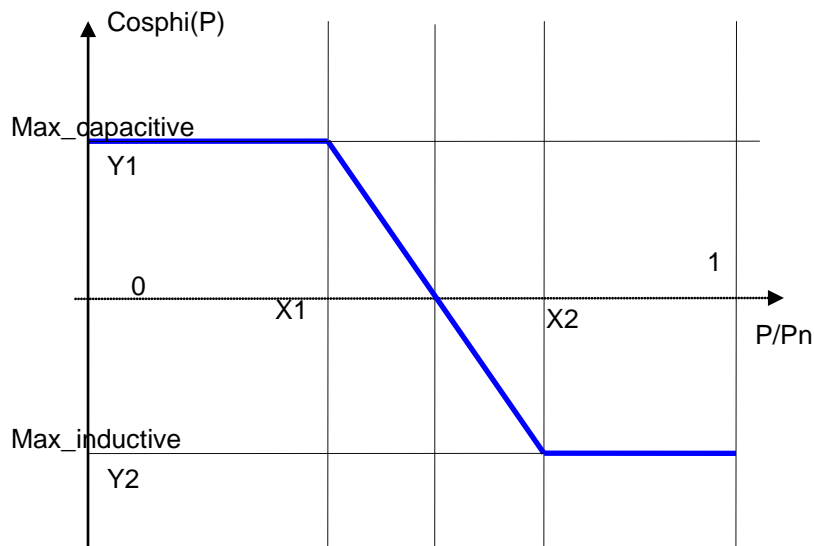

Figure 2: Cosphi(P) characteristic
Active	Only if P300 = 6, Reactive Power defined by Cosphi(P) (Figure 2). This is the value for "X1".
Function	Coordinate "X1" in Figure 2. If P/Pn < X1, the reactive power is defined by "Y1", otherwise it is defined by the loop line.
Active	Only if P300 = 6, Reactive Power defined by Cosphi(P) characteristic (Figure 2). This is the value for "Y1" and is the max. capacitive cosphi value.
Function	Coordinate "Y1" in Figure 2.
Active	Only if P300 = 6, Reactive Power defined by Cosphi(P) characteristic (Figure 2). This is the value for "X2".
Function	Coordinate "X2" in Figure 2. If P/Pn > X2, the reactive power is defined by "Y2", otherwise it is defined by the loop line.
Active	Only if P300=6, Reactive Power defined by Cosphi(P) characteristic (Figure 2). This is the value for "Y2" and is the max. inductive cosphi value.
Function	Coordinate "Y2" in Figure 2.